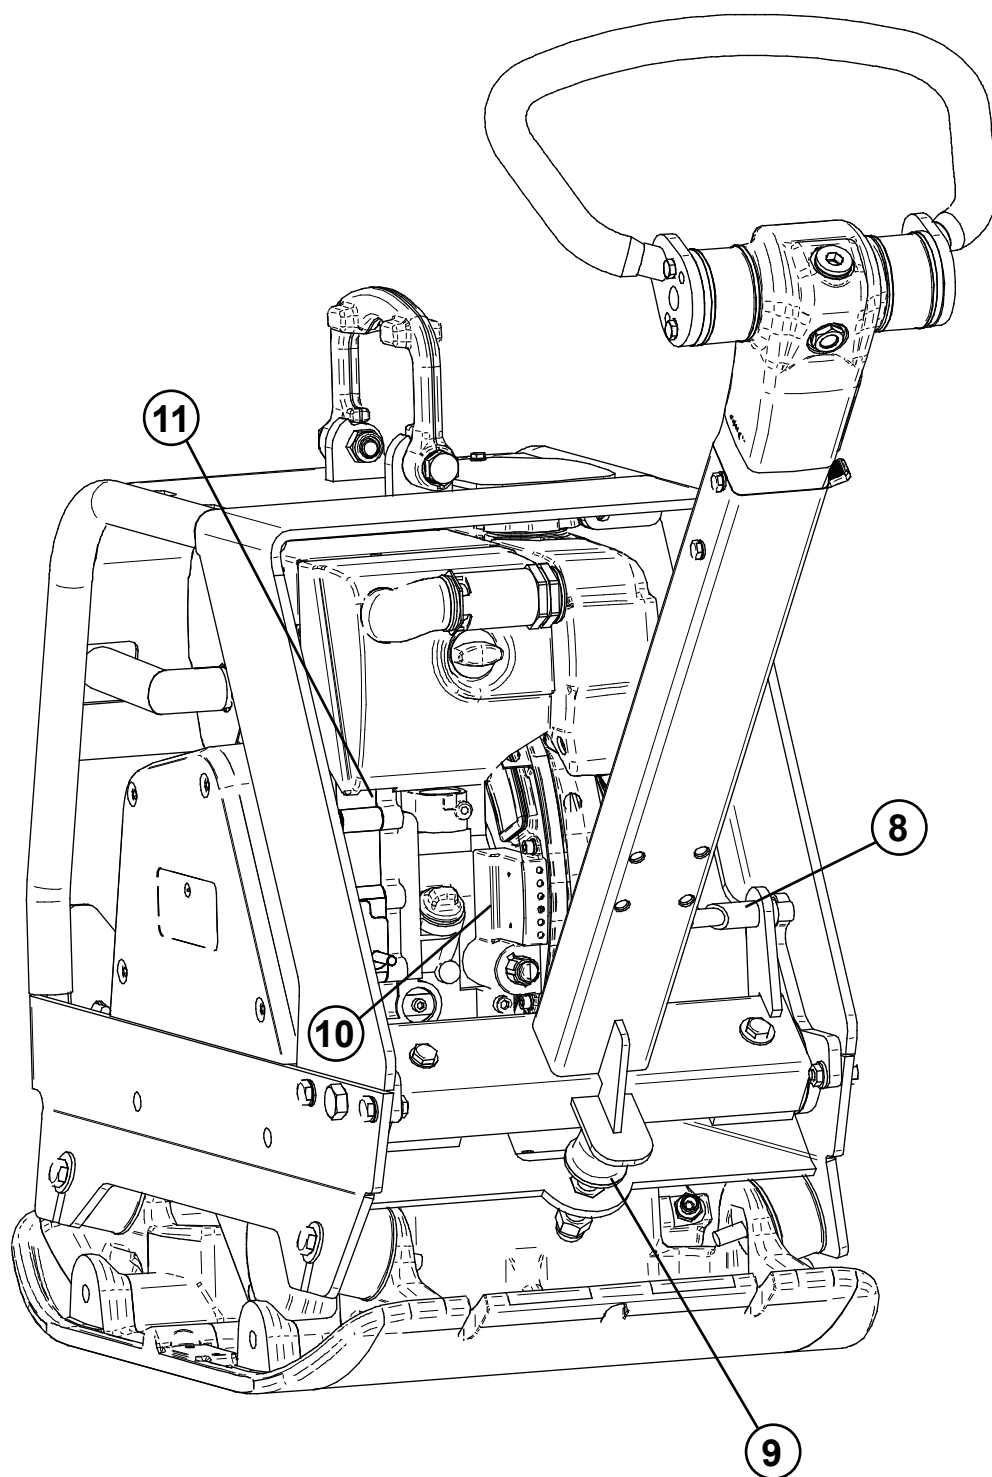

Figure 2
- ▶ Adjust the desired work height of the guide bar with the set screw (position 9, figure 2).
- ▶ Press the power button (position 11, figure 2).